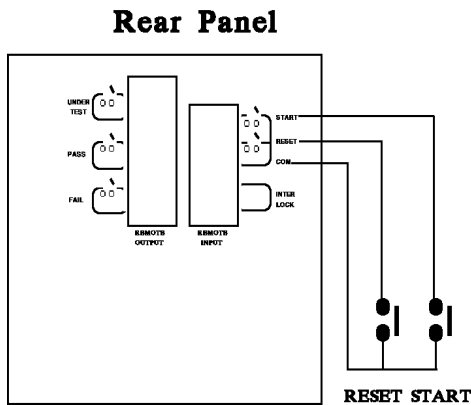
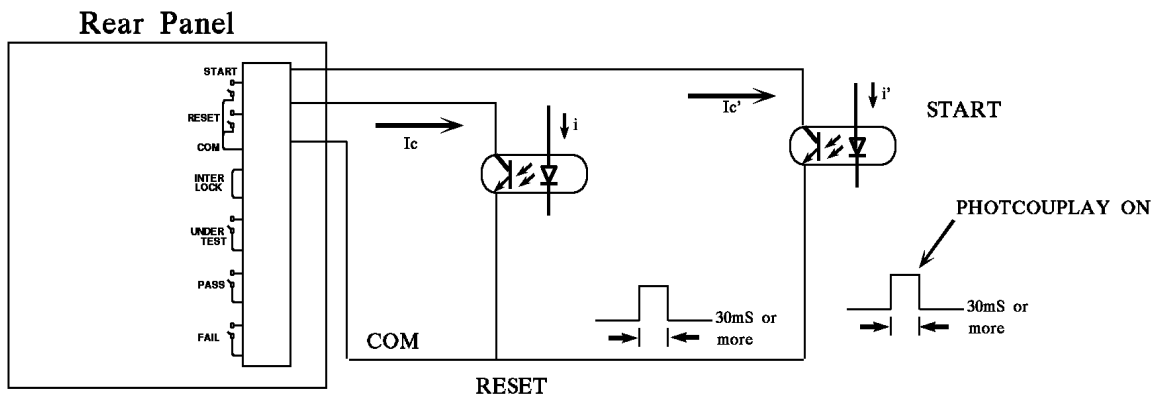

Figure 4-1
Figure 4-3
1. If users want to control START single and STOP signal can refer to Figure 4-1. As this figure described method connect to REMOTE position on front panel.
3. Some logical components such as transistor, FET, coupler. Also can be used to connect as control circuit as Figure 4-3. The connecting signal and circuit as Figure 4-3. Only the circuit includes the following statuses, it can control the main unit.
4. The relay switch control as Figure 4-1 and photo-coupler control as Figure 4-3 are controlled by component contact. It is effective to avoid error operation system cause by interference. Although the main unit has a lot of preventions, it is necessary to be careful that interferences result from setting measurement system.